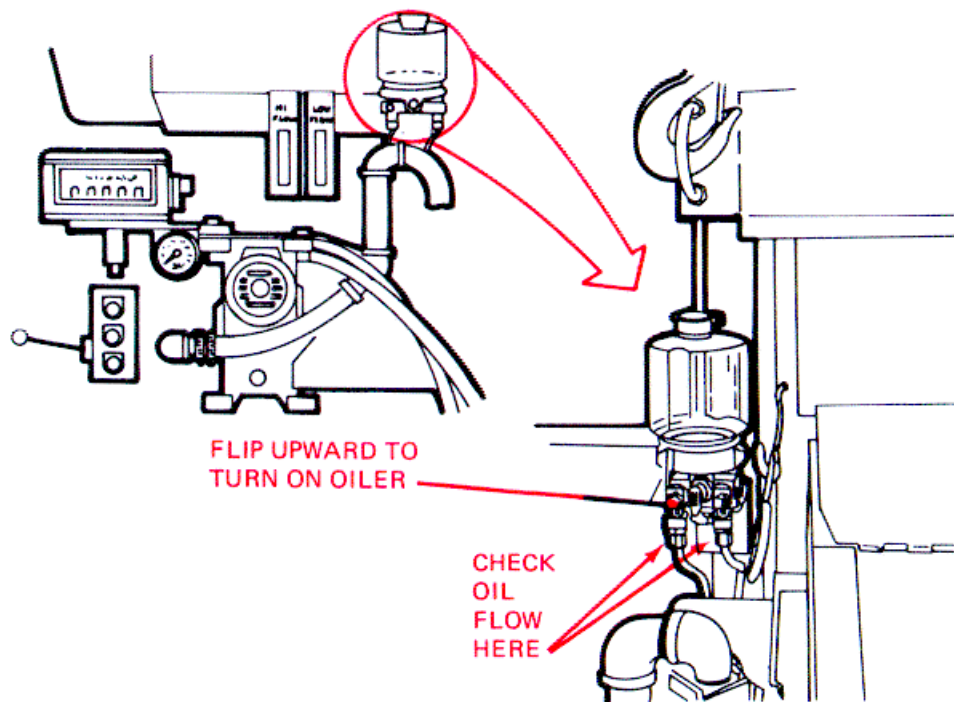

Figure 3-17. Chain Oiler.
- (3) Turn on the chain oiler (fig. 3-17).